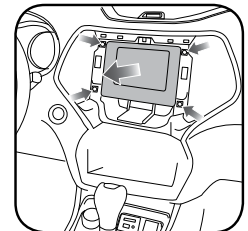

Fig. 1.4
- Remove the four (4) 7mm bolts securing the radio, then remove and disconnect the factory radio. (Fig. 1.4)